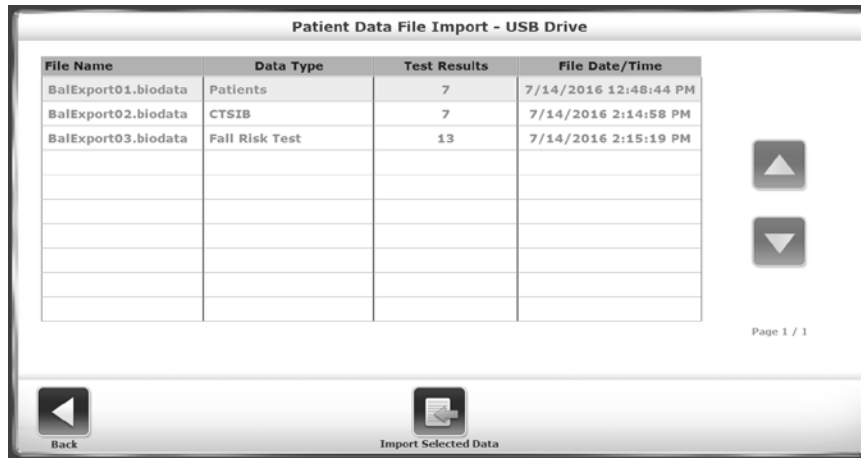

Figure 7.21. Import Patient Data Screen.
4. Touch <Import Selected Data> (see Figure 7.21).